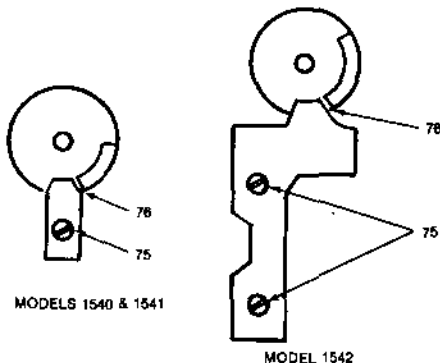

Fig. 3-17. Track No. 1 stop adjustment.
1. Loosen the track No. 1 stop screw(s) (Fig. 3-17, Item 75). Loosen the track No. 1 stop so that it moves freely under the screw(s).
5. Loosen the track No. 1 stop screw(s) (Fig. 3-17, Item 75). Loosen the track No. 1 stop so that it moves freely under the screw(s).
7. Slide a 0.006-inch feeler gauge into the gap (Fig. 3-17, Item 76), gently push track No. 1 stop against the feeler gauge, and tighten the screw(s).